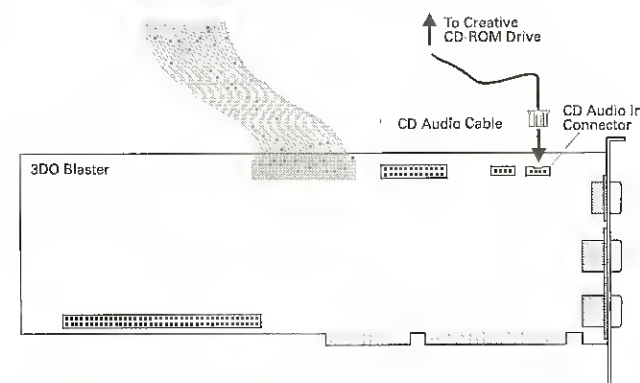

Figure 2-11: Reconnect CD Audio cable from Creative CD-ROM drive to CD Audio-In connector of 3DO Blaster.
4. Reconnect the CD Audio cable to the CD Audio-In connector on your 3DO Blaster as shown in Figure 2-11.